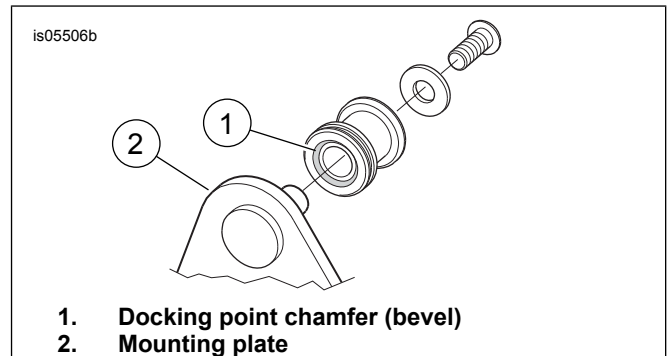

Figure 1. Docking Point Installation
*See Figure 1. Install the docking points to the docking plates (2) with the chamfer (1) facing the plate (flat side facing out).*